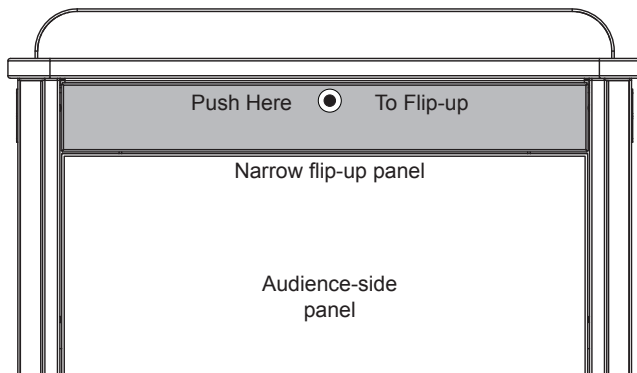

Figure 2.1
1. Push in the top of the narrow flip-up panel to access the locks. (Do not pry open this panel). **Figure 2.1.**